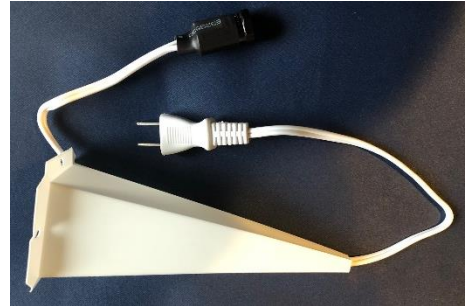

Figure 1: Replacement Assembly
- 1-star tip of the Moravian Star with electrical power cord installed, Figure 1.